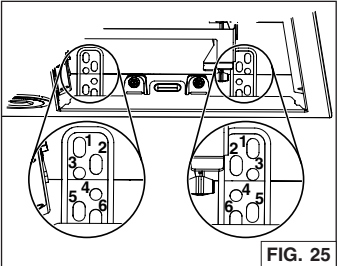

FIG. 25
3. Lift the unit until contact is made between the unit flange and cabinet. Secure the unit to the cabinet using 4 no. 8 x 5/8" wood screws included in parts bag (2 screws per side). Use upper or lower holes (**1**, **2**, **3**, **4**, **5** or **6**) (FIG. 25).